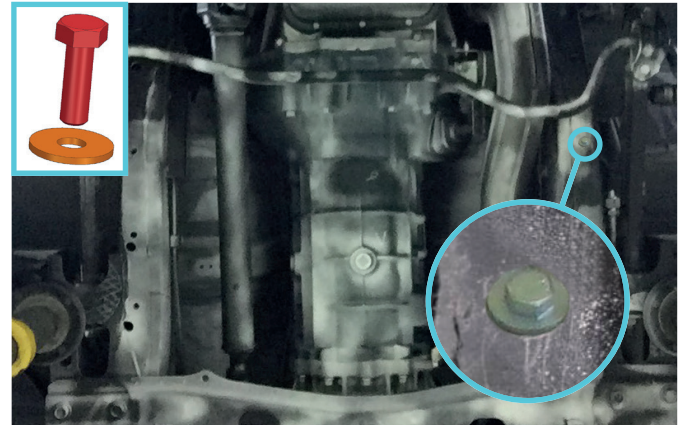

Fig. 2
2. Loosely insert supplied bolt M8x1.25x25 with washer M8 (items A, B) into insert nut M8x1.25 from step 1 as shown in fig. 2. ***Do not tighten yet.**